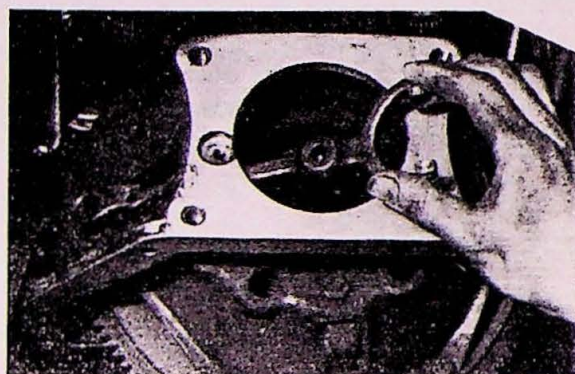

Fig. 2.
3. Remove release bearing (15).
5. Remove clutch fork (17) by loosening the ball (19) from the inside of the clutch housing some turns by a 17 mm open end wrench and holding it in that position. Then unscrew the ball locking screw (18). Turn clutch fork half-way round and withdraw it backwards, fig. 2.